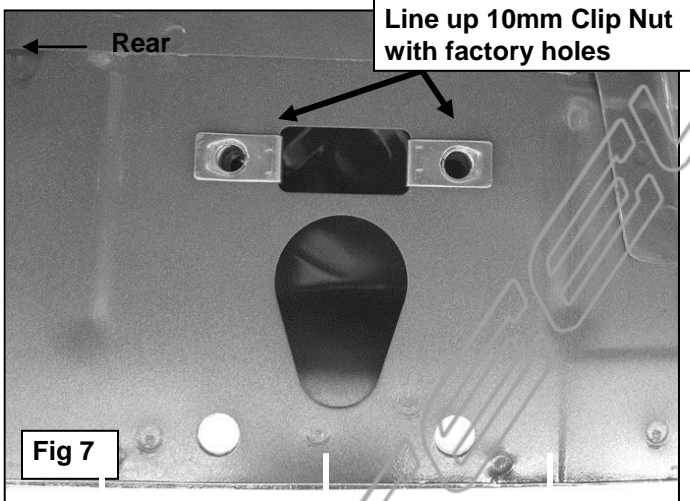

**Fig 5**
- Next, select (1) Front Bracket Spacer and (1) Driver Side Front Bracket. Line up the (2) holes in the Spacer with the Clip Nut and (1) hole in the pinch weld, **(Figures 3 & 4)**. Insert (1) 10mm x 40mm Hex Bolt, (1) 10mm Lock Washer and (1) 10mm Flat Washer through the top hole in the Bracket, the Spacer and into the Clip Nut, **(Figure 5)**. Leave hardware loose. Bolt the bottom of the Bracket to the pinch weld and Spacer with the included (2) 10mm x 40mm Hex Bolts, (2) 10mm Lock Washers, (4) 10mm Flat Washers and (2) 10mm Hex Nuts, **(Figure 5)**. **NOTE:** Insert Hex Bolts in from the outside, through the pinch weld and then the Bracket.
- With assistance, carefully place the Sidebar into position and attach it to the Mounting Brackets using the included (2) 1/2" x 2" Hex Bolts, (2) 1/2" Lock Washers and (2) 1/2" Flat Washers, **(Figures 5 & 8)**.